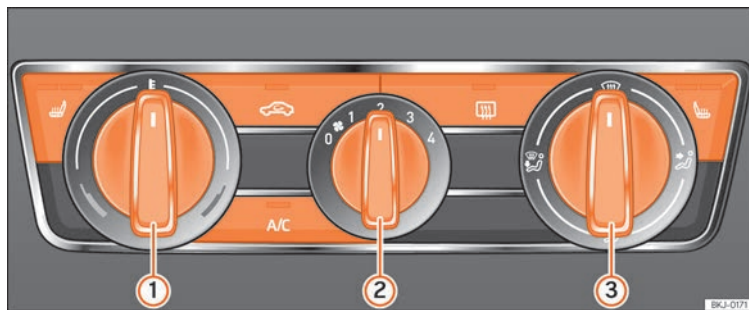

Fig. 171 Air conditioning controls on the dash panel.
- Turn off the cooling system using the **A/C** button » Fig. 171 (the button light turns off).
- Turn the temperature regulator » Fig. 171 ① to set the desired temperature inside the vehicle.
- Set the air distribution regulator » **Fig. 171** ③ to the air flow configuration desired:  (towards the windscreen),  (towards the chest),  (towards the footwell) and  (towards the windscreen and footwell).